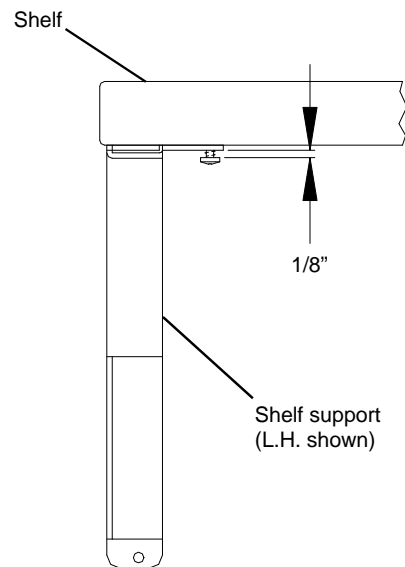

Figure 1
**NOTE:** Do not fully tighten the four screws attaching the shelf to the shelf supports; leave approximate 1/8" gap. See **Figure 1**.